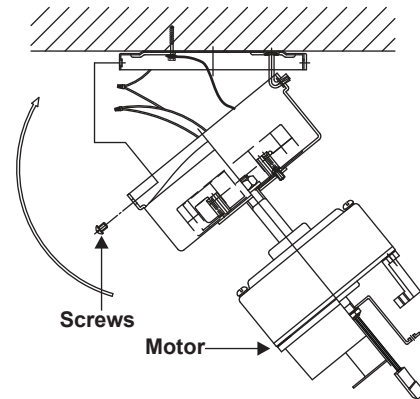

Figure 7
Step 1. Move fan motor into position over the four mounting holes and secure with the four screws provided. (Fig. 7)